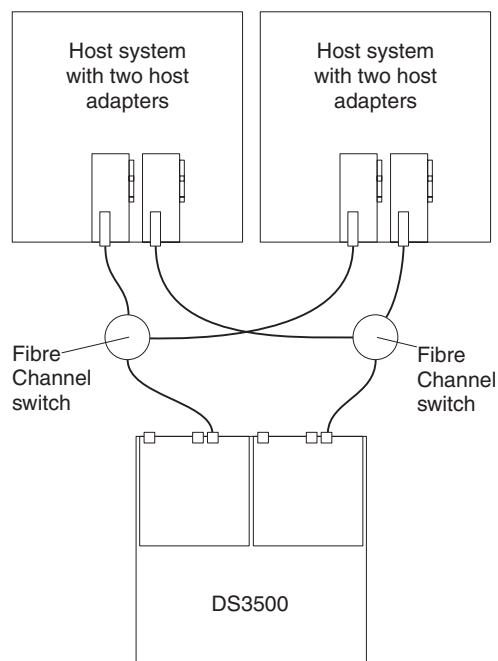

Figure 62. Example of a dual Fibre Channel SAN fabric configuration
- Dual SAN fabric configuration, as shown in Figure 62 on page 69
In Figure 62, the Fibre Channel switches are *not* connected together through an ISL. Each switch forms its own SAN fabric. This configuration is also the configuration to use for a dual-node host configuration.